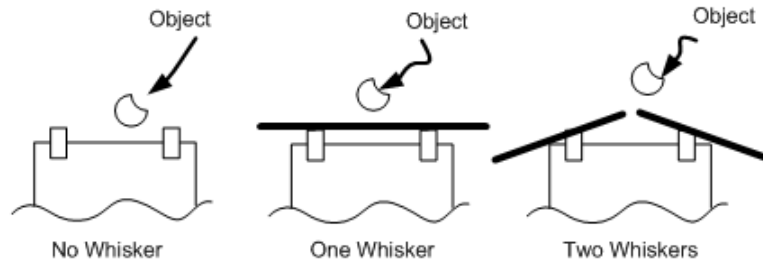

Figure 5.11: Possible Extended Sensors
2. The Sensor Board that you have made uses two small buttons to detect objects. These do not work very well if the object is low to the ground, or if you don't run directly into the object. Create your own 'whisker extensions' to expand the area of sensing that your robot has. Figure 5.11 shows two types of whisker extensions, but you may use anything, and may even replace the switches on your TekBot with something different. *Grading is based on your TA's discretion.*